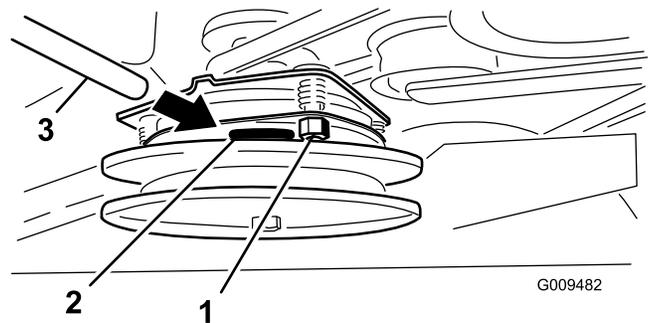

Figure 57
5. Tighten the locknuts until there is slight binding on the feeler gauge but it can be moved easily within the air gap (Figure 57).